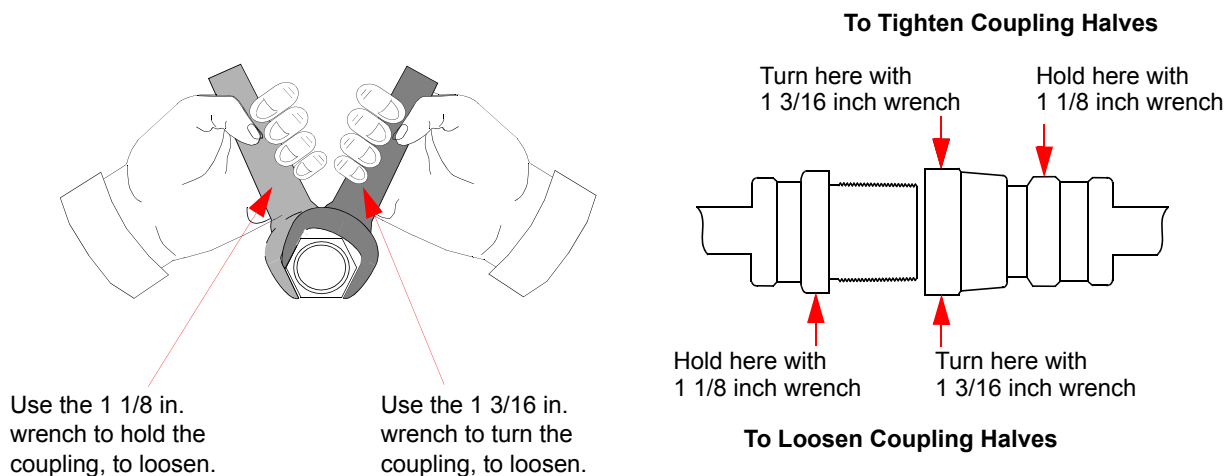

Figure 4-4: Connecting/Disconnecting Helium Flex Line Couplings
<div data-bbox="935 491 1125 541">CAUTION</div> <div data-bbox="878 569 1174 604">Equipment Damage</div> <p data-bbox="586 621 1417 688">To avoid damaging o-rings and creating a helium leak, follow the procedure in this section, including Figure 4-4 on page 4-12.</p>
3. Connect one end of the Helium Supply Line to the Helium Supply connector on the rear of the 8600 Compressor, and connect the other end to the Gas Supply connector on the 20HP Cryopump. Tighten the connection by using a 1 1/8-inch wrench to hold the coupling stationary and a 1 3/16-inch wrench to tighten the self-sealing coupling connector as shown in Figure 4-4.
3. Disconnect the two self-sealing coupling connectors quickly to minimize helium leakage by using a 1 1/8-inch wrench to hold the coupling stationary, and use a 1 3/16-inch wrench to loosen the self-sealing coupling connector as shown in Figure 4-4 on page 4-12.